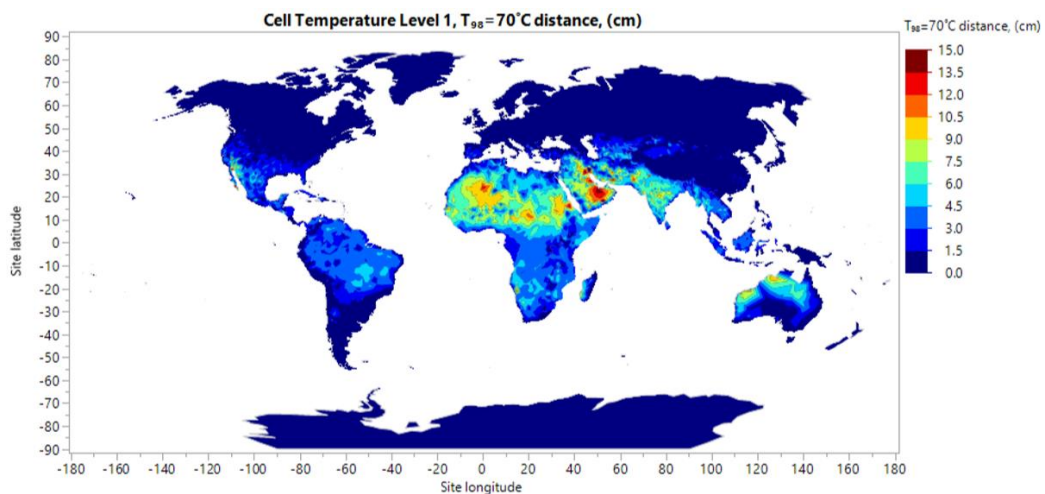
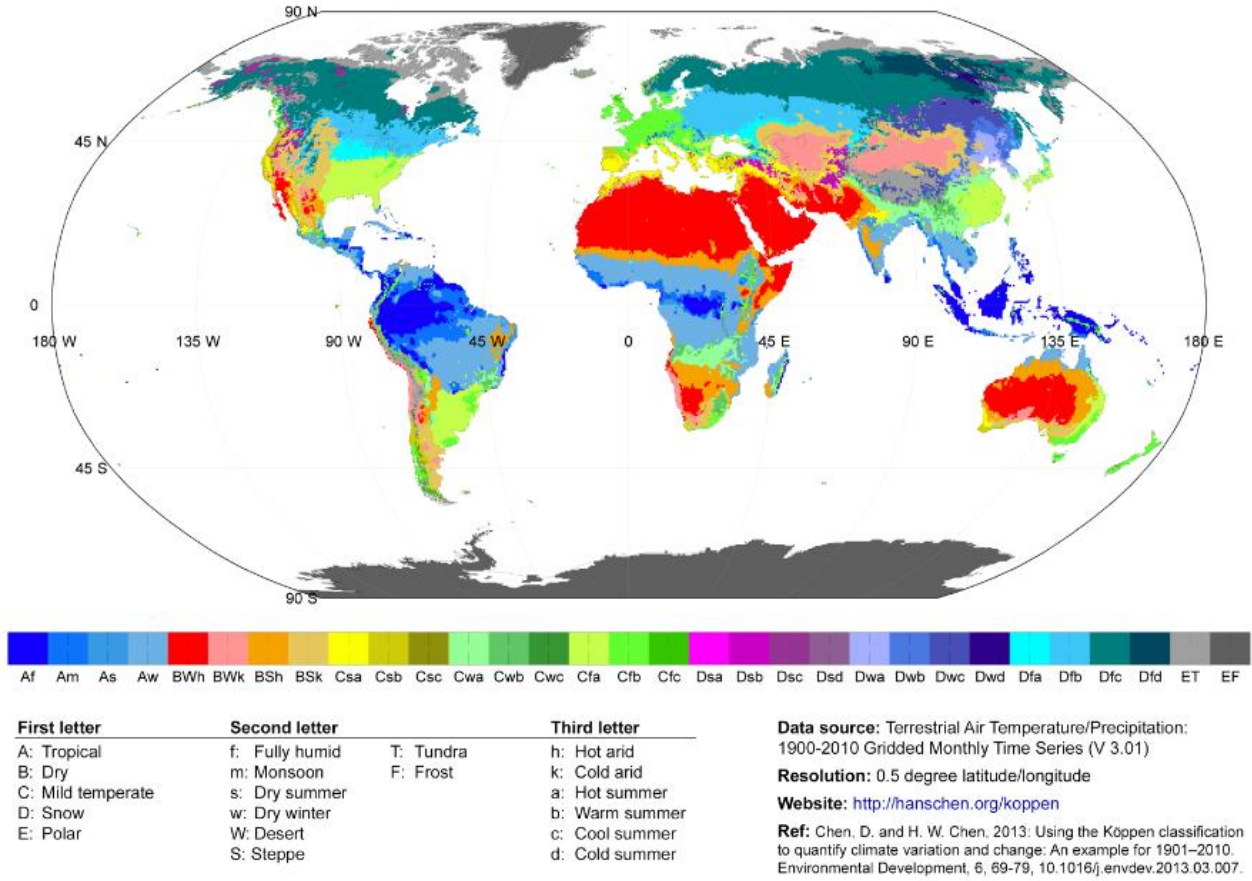

Figure A.2 - Mounting distances to roof around the world with which the 98-percentile temperature of cell, $T_{98} = 70^{\circ}\text{C}$
Figure A.3 Spatial distribution of the Köppen climate types for the period from 1901 to 2010
- Figure A.2 gives recommended mounting distances to roof around the world according to IEC committee's recommendation except for BWh area. If you want to determine a specific distance on your project located in the BWh climate area, please contact Canadian Solar's technical support. Figure A.3 shows climate area distribution of the Köppen climate types for the period from 1901 to 2010. For more information about Köppen climate types, please refer to <http://hanschen.org/koppen>.